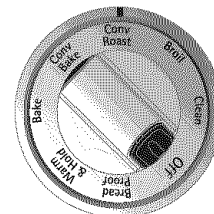

Figure 4
2. Turn the selector control knob to Conv Roast (Figure 4). The convection fan will start.